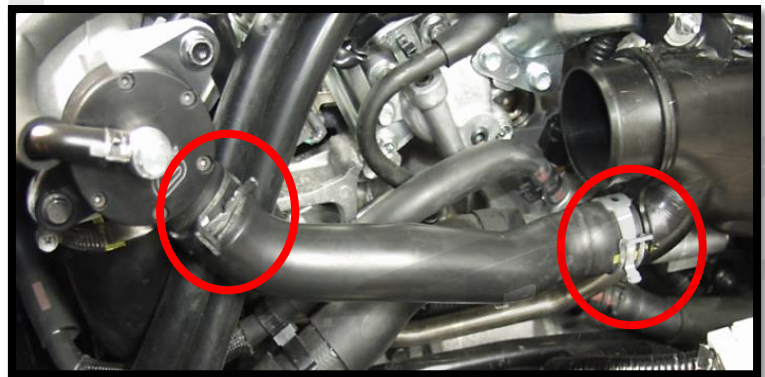

Figure 3a
- a) **Using pliers, release the hose clamps (red circles in Figure 3a) located on the bypass valve hose.** Remove the hose from the car and save if you are re-using it. You can discard the rubber hose and spring clamps if you will be installing the optional CorkSport Silicone BPV Hose.